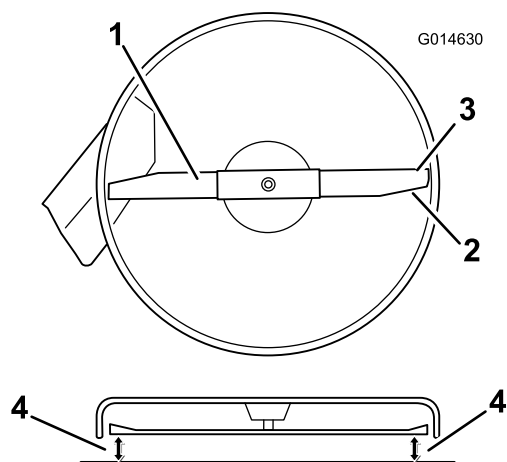

Figure 49
4. Carefully rotate the blade(s) so that they are all side to side (Figure 49).